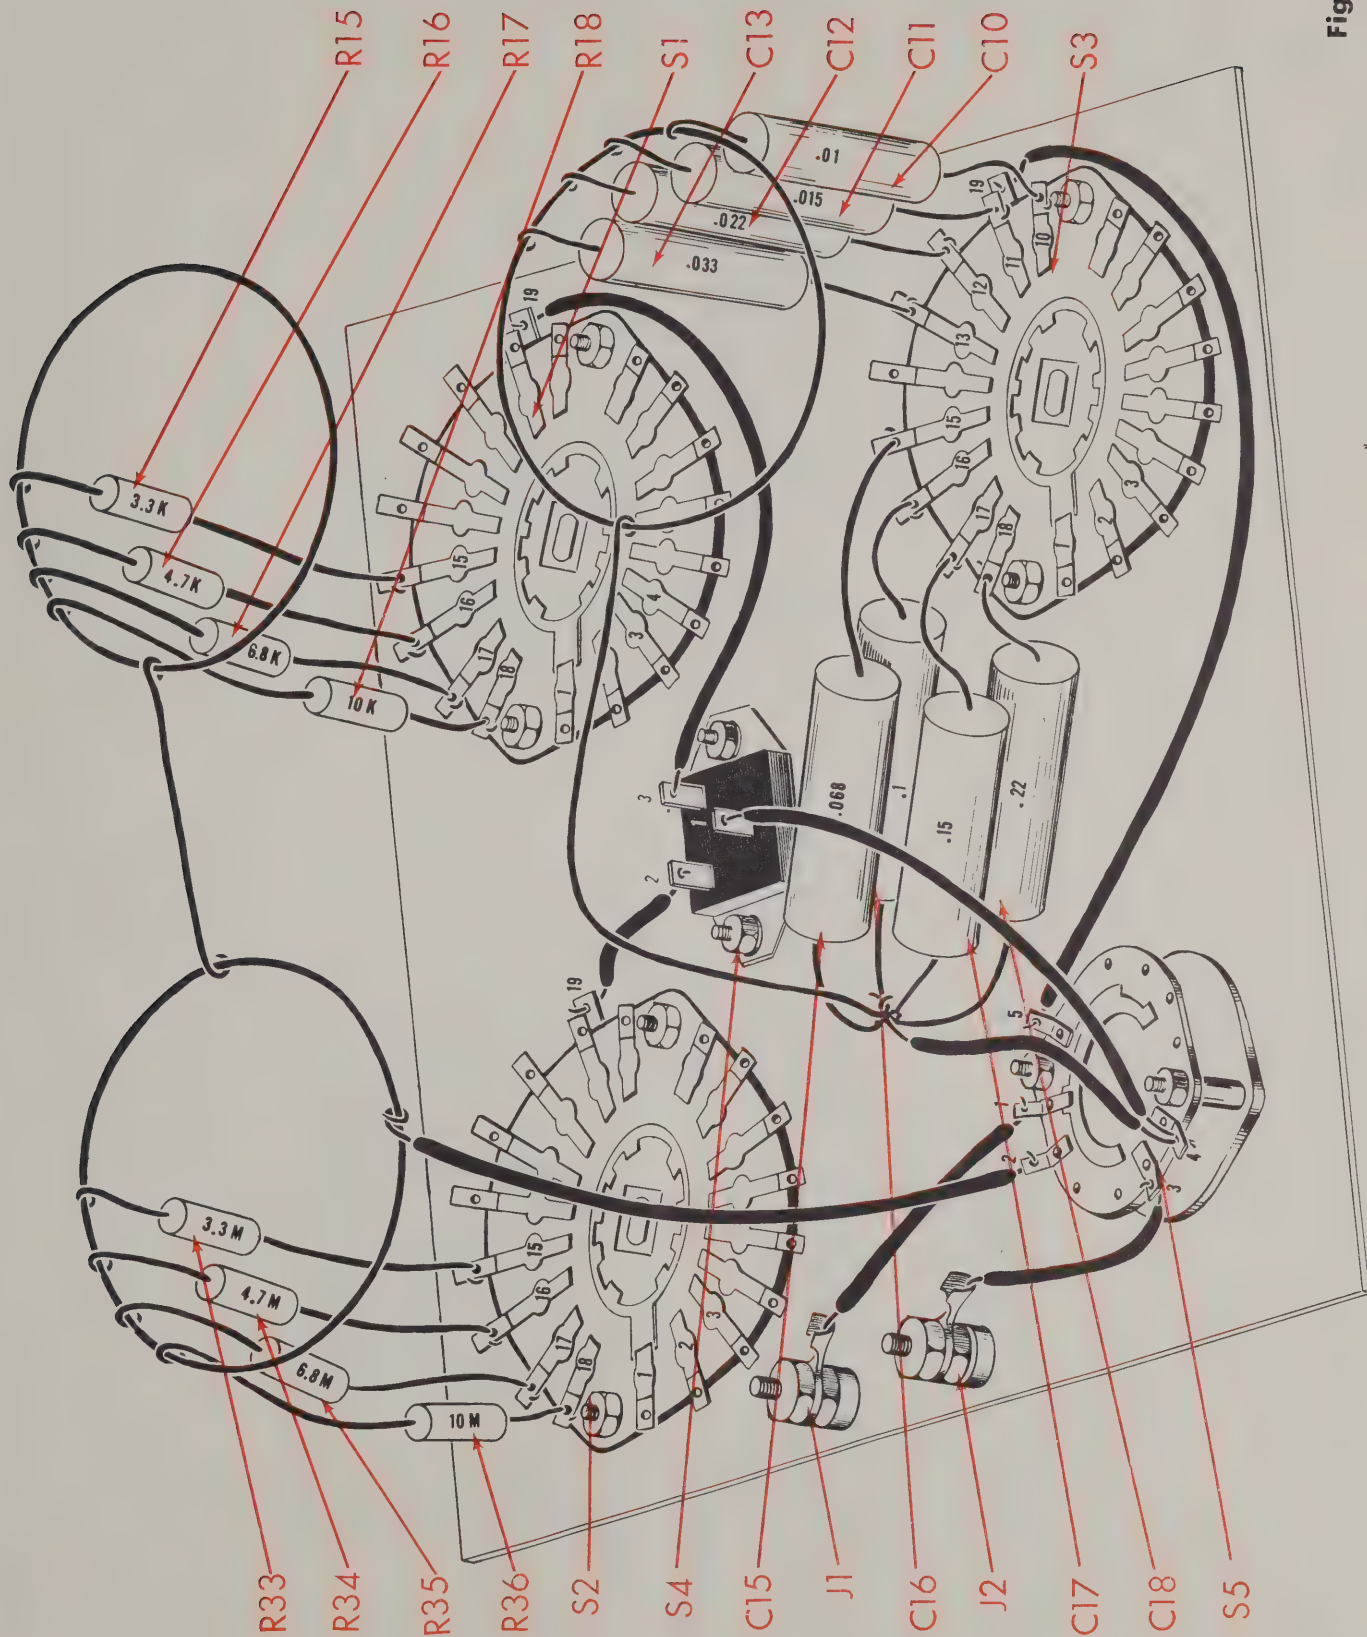

Fig. 3
1. ( ) Fig. 3. All capacitors are to be mounted on S3. On the following capacitors, cut all leads to 3/4". Solder one lead to the contacts indicated below. Leave a 1/2" lead length between the contact and the body of the capacitor.
2. ( ) Fig. 3. On the following capacitors, cut all leads to 1/2". Solder one end to the contact indicated below. Leave a 1/4" lead length between the contact and the body of the capacitor.
3. ( ) Fig. 3. On the following capacitors, cut one lead to 1/2" and the other lead to 3/4". Solder the 3/4" lead from one end of each capacitor to the contact indicated below. Leave a 1/2" lead length between the contact and the body of the capacitor.
4. ( ) Fig. 3. Cut both leads on a .047 mfd (yellow, violet, orange, silver, blue) capacitor, C14, to 3/4". Cover one lead with a 1/2" piece of spaghetti and connect to S3-14 (S).
5. ( ) Fig. 3. Cut one lead on each of the remaining four capacitors to 1". Cut the remaining lead on each of the capacitors to 1 1/2". Cover each of the longer leads with a 1 1/4" piece of spaghetti and connect to the switch contact indicated below.
6. ( ) Fig. 3. Wrap unsoldered leads of all resistors (soldered to S1) around one of the previously prepared rings as shown. Solder all leads from the 18 resistors to this ring. The ring should be suspended in the air by the resistors parallel to the switch.
7. ( ) Fig. 3. Similar to the above, wrap unsoldered leads of all resistors (soldered to S2) around a second one of the previously prepared rings as shown. Solder all leads from the 18 resistors to this ring. The ring should be suspended in the air by the resistors parallel to the switch.
8. ( ) Fig. 3. Similar to the above, wrap unsoldered leads of capacitors, C1 through C14 (soldered to S3) around the third of the previously prepared rings as shown. Solder the leads of these capacitors to the ring. The ring should be suspended in the air by the capacitors parallel to the switch. The height of each ring should be no greater than 2-1/8" above the panel.
9. ( ) Fig. 3. Twist the lead of the remaining four capacitors, C15 through C18, together as shown. Around these leads, twist one end of a 5" piece of bare wire and a 2 1/2" piece of insulated wire. Solder all these leads together. Be careful that solder should flow over all of these wires at the twisted connection. Connect the remaining end of the insulated wire to S5-4(C) and the remaining end of the bare wire to the ring (S) over the capacitor switch S3.
10. ( ) Fig. 3. Connect a 4" piece of wire from S5-4 (S) to S4-1 (S).
11. ( ) Fig. 3. Connect an 8" piece of wire from S5-5 (S) to lugs (S) on front side of S3.
12. ( ) Fig. 3. Connect a 6" piece of wire from S4-3 (S) to lug (S) on front side of S1.
13. ( ) Fig. 3. Connect a 2" piece of wire from S4-2 (S) to lug (S) on front side of S2.
14. ( ) Fig. 3. Connect a 2" piece of wire from S5-1 (S) to jack J1 (S).
15. ( ) Fig. 3. Connect a 2" piece of wire from S5-3 (S) to jack J2 (S).
16. ( ) Fig. 3. Connect a 2" piece of bare wire from the ring (S) suspended above S1 to the ring (S) suspended above S2.
17. ( ) Fig. 3. Connect a 2 1/2" piece of wire from S5-2 (S) to ring (S) suspended above S2.
18. ( ) Fig. 3. Mount the panel in the cabinet. Use four #4 screws.